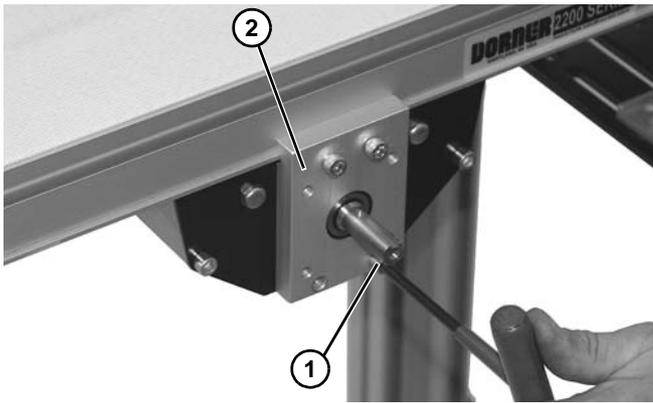
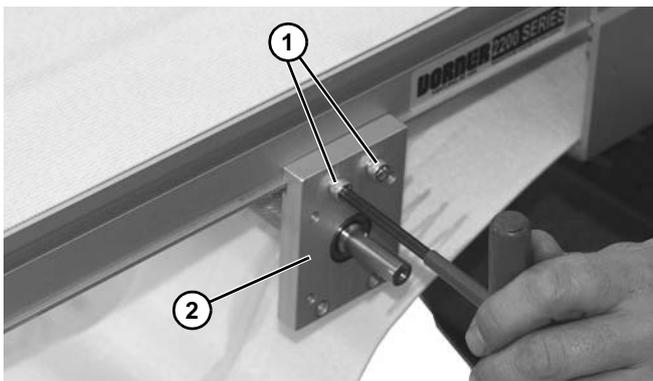

Figure 72
Figure 74
- Loosen one socket head screw (**Figure 72, item 1**) from each side of mounting block (**Figure 72, item 2**).
- Loosen two socket head screws (**Figure 74, item 1**) from each side of mounting block (**Figure 74, item 2**).
- Tighten socket head screws (**Figure 72, item 1**) and (**Figure 74, item 1**) to 7 Nm.